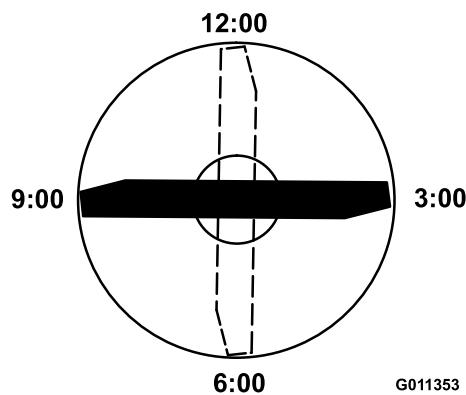

Figure 74
4. Position the cutting edge of the marked end of the blade at 12 o'clock (straight ahead in the direction of mowing) (Figure 74) and measure height from table to cutting edge of blade.
5. Rotate the marked end of the blade to the 3 and 9 o'clock positions (Figure 74) and measure the heights.